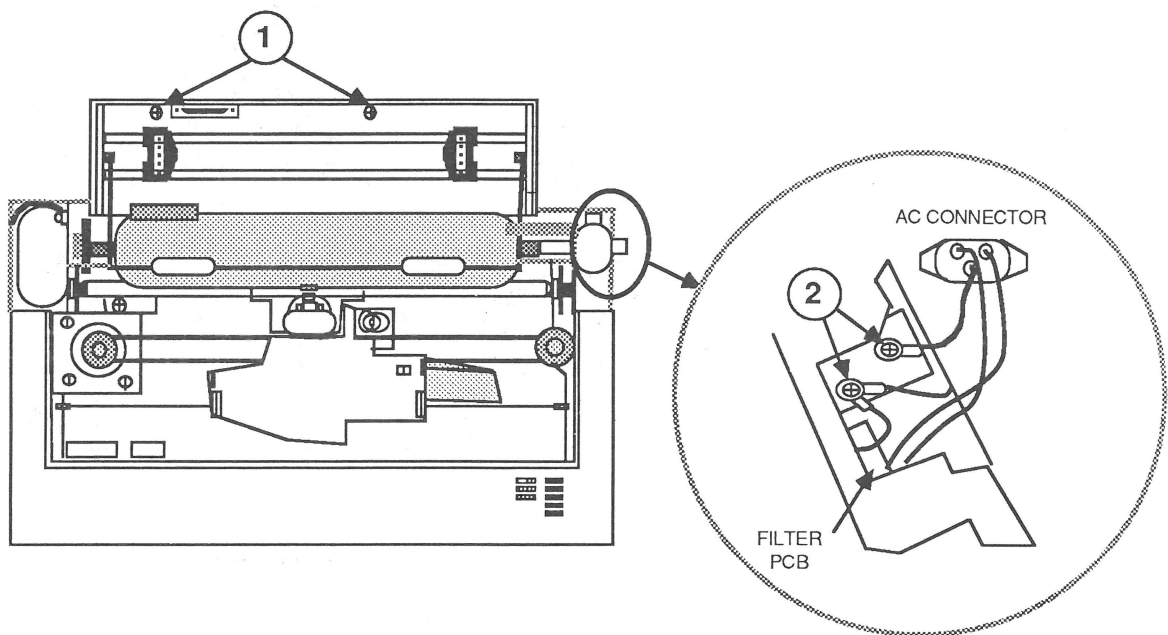

FIGURE 21
10. Replace the two screws (Figure 21, #1).
11. Reconnect the three grounding straps and two screws into the right support leg (Figure 21, #2).